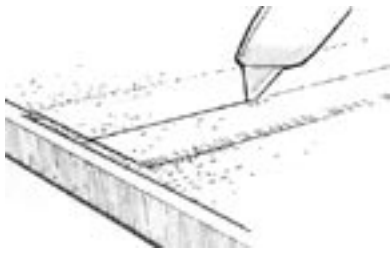

Figure 9-18 Trim overlapping fabric using a metal straightedge and a sharp utility knife, for a flush butt joint.
- b.) Cut through both layers of cloth with a sharp utility knife. (*Figure 9-18*).